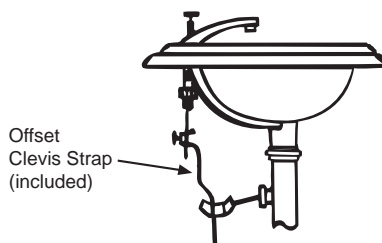

FIGURE 2
3. Install the faucet fittings and waste assembly onto the lavatory according to the manufacturer's instructions. **NOTE: An offset clevis strap has been included with your new lavatory. This will simplify installation of the pop-up waste when installed as shown. See figure 2.**